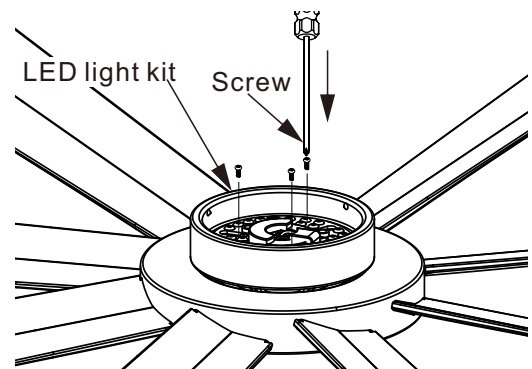

Figure 8
Step 3. Tighten the LED light kit using 3 screws previously removed in step 1. (Fig.8)